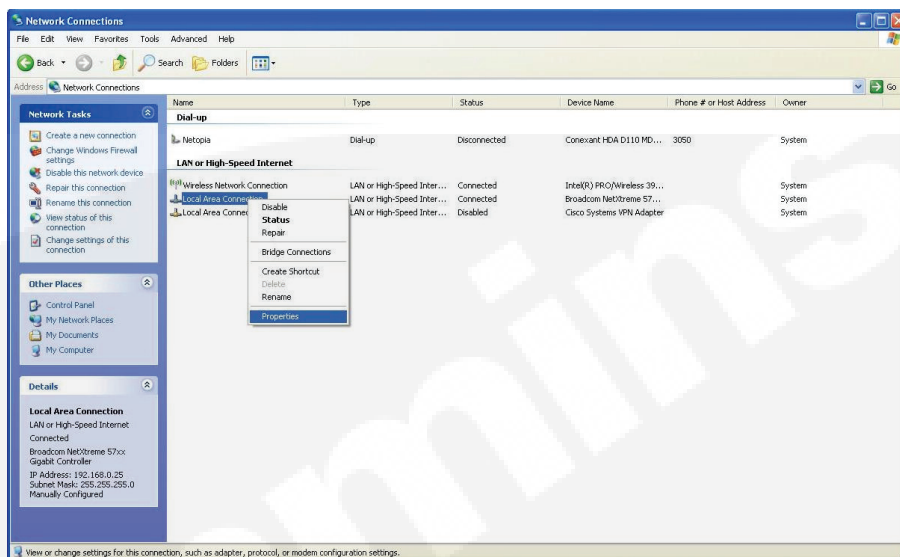

FIGURE A-7. LOCAL AREA NETWORK CONNECTION
- From the Network Connections page, right click on your Local Area Network connection, and select Properties (see Figure A-7).